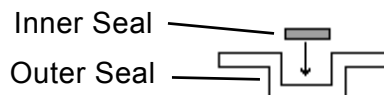

Figure 10. Assembling the PTFE Seals
- 1 Insert the small PTFE seals into the cavities of the larger white PTFE seals as shown in Figure 10.